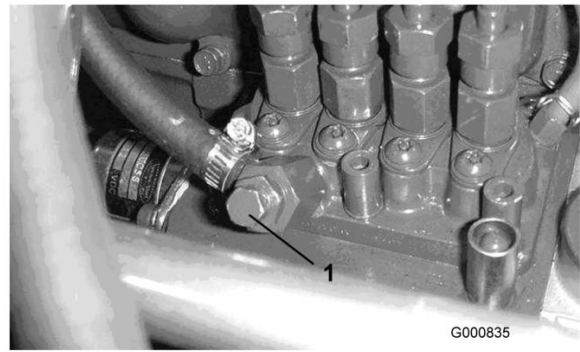

Figure 37
5. Open the air bleed screw on the fuel injection pump (Figure 37).